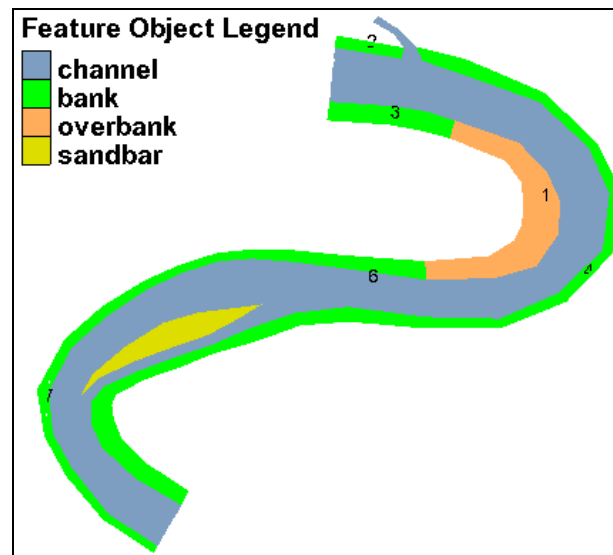

Figure 4 Material properties for each polygons
5. Make certain that *Materials* options is selected and that the appropriate material is assigned per Figure 4. Click **OK** to close the *Land Polygon Attributes* dialog.
6. Repeat steps 4–5 to make sure all polygons are all assigned the appropriate material property per Figure 4.